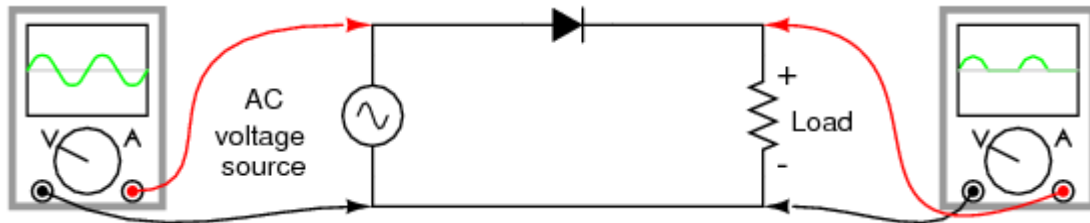

Fig.1 Half-wave rectifier circuit.
Simply defined, rectification is the conversion of alternating current (AC) to direct current (DC). This involves a device that only allows one-way flow of electrons. As we have seen, this is exactly what a semiconductor diode does. The simplest kind of rectifier circuit is the *half-wave* rectifier. It only allows one half of an AC waveform to pass through to the load. (Figure 1)